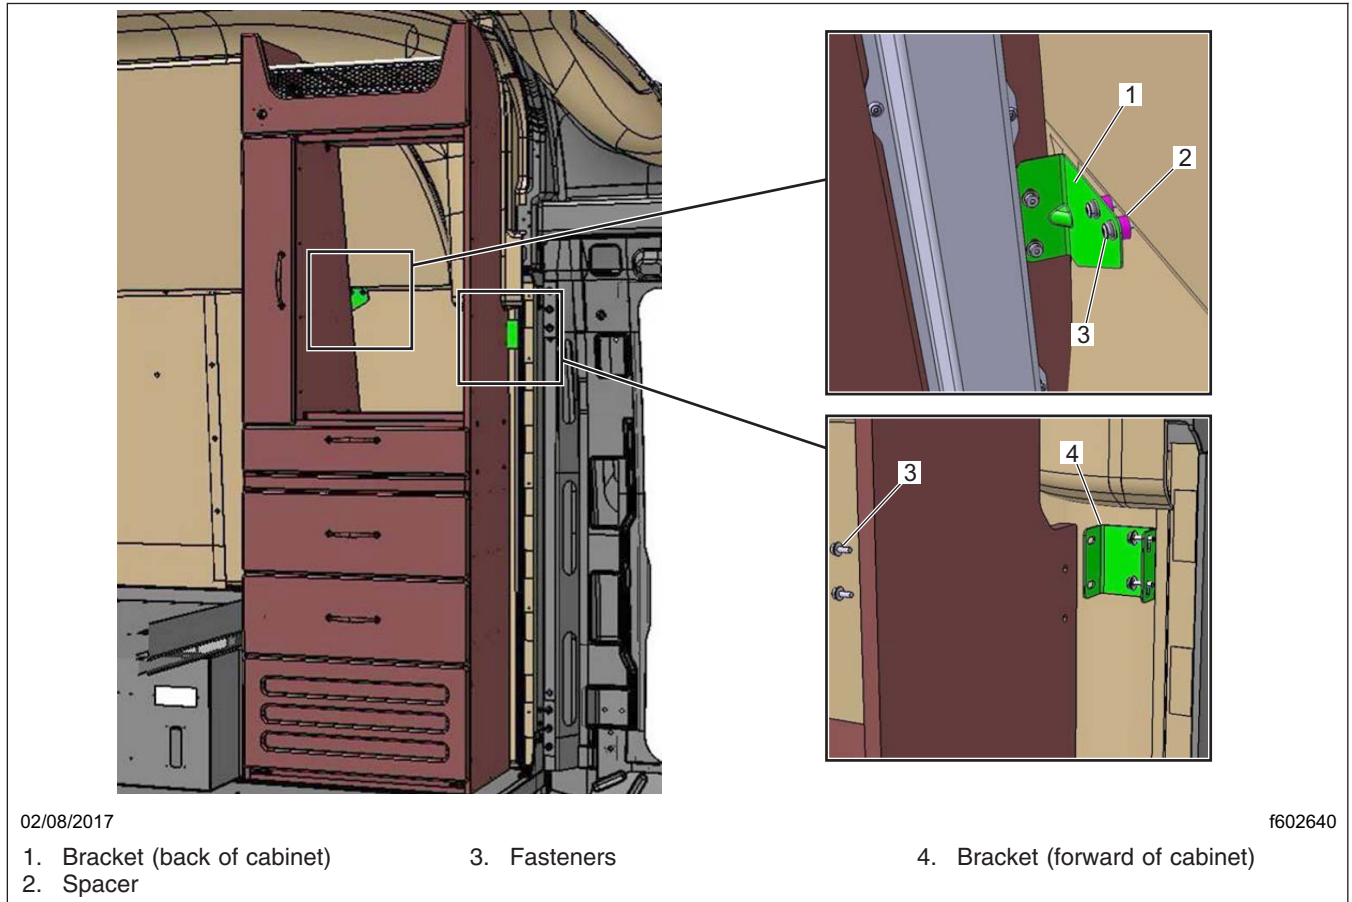

Fig. 4, LH Cabinet Installation
- 4.4 Remove the screws, washers, and spacers at the bracket in the back of the cabinet. See Fig. 4.
- 31.2 Install the screws, washers, and spacers at the bracket in the back of the cabinet. See Fig. 4.